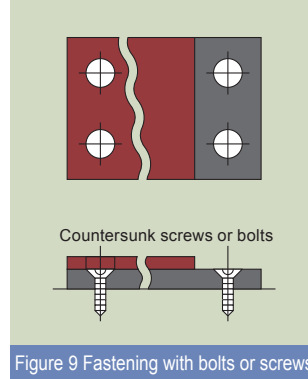

Figure 9 Fastening with bolts or screws
- (1) Fastening with bolts or screws (see Figure 9)